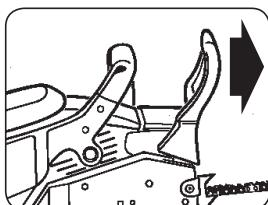

Fig. 5B
2. The chain brake is engaged (chain is stopped) when brake lever is in forward position. You should not be able to move chain (*Fig. 5B*).